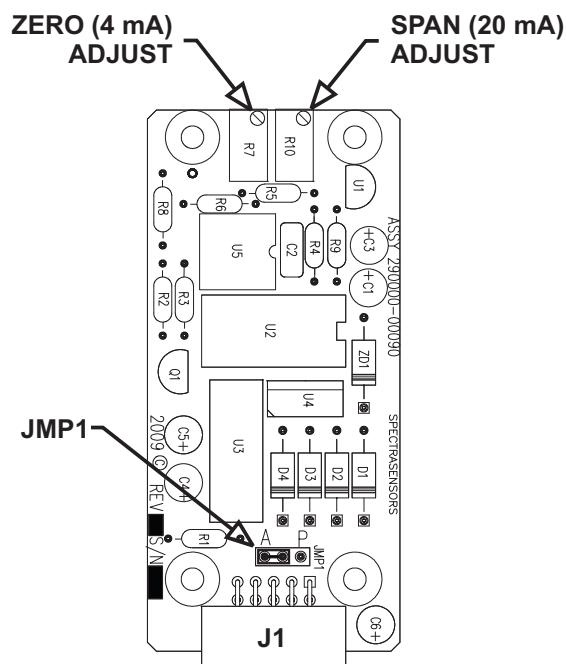

Figure 2-7 4-20 mA output board.
- 5.** Desolder the jumper (JMP1), shown in Figure 2-7, connecting the center hole to point "A."